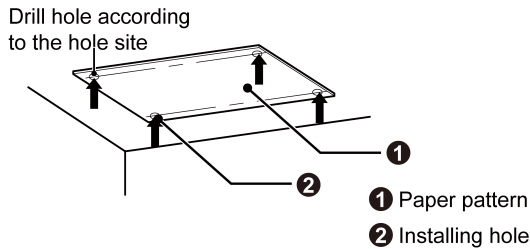
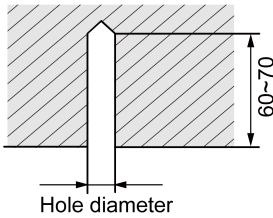

Fig.4.1.2
Fig.4.1.3
1) Stick the reference cardboard on the installation position; drill 4 holes according to the hole site on the cardboard as shown in Fig.4.1.2; diameter of drilling hole is according to the diameter of expansion bolt and the depth is 60-70mm, as shown in Fig.4.1.3.